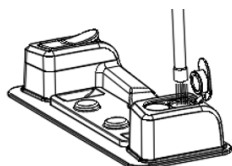

Fig. 6
2. Fill with water. Pure disinfection without additives and essential oils can be used (Fig. 6).